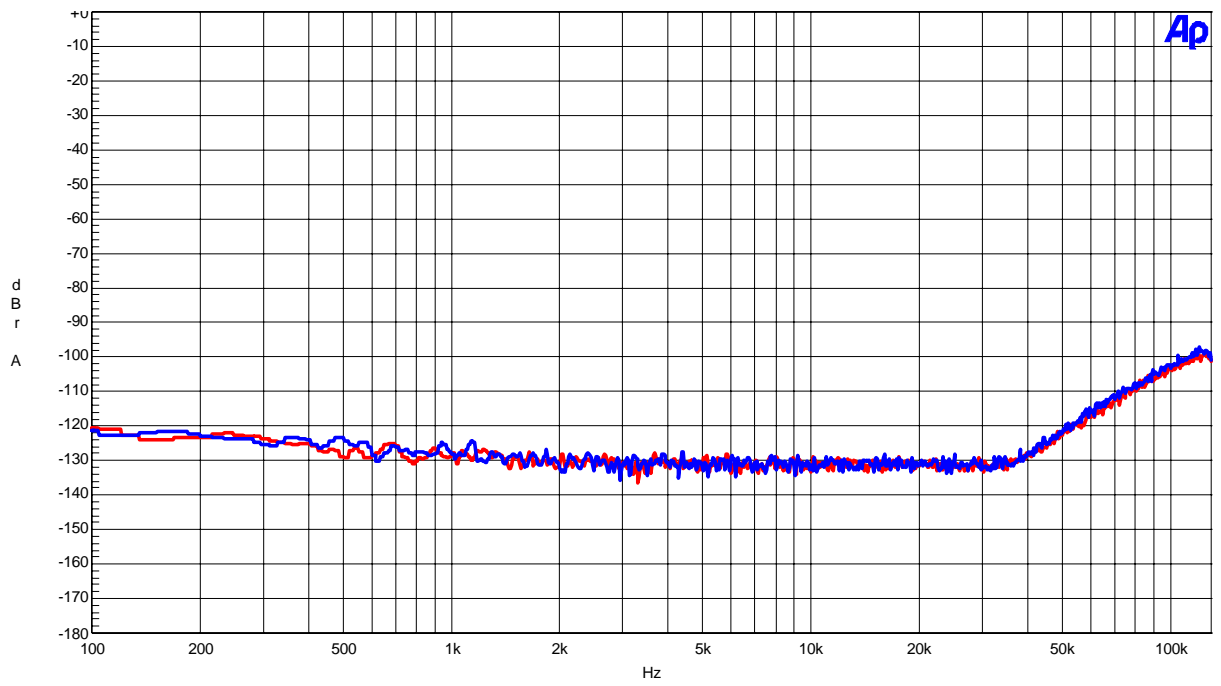

Figure 21. FFT (out-of-band noise)
- Figure 21. FFT (out-of-band noise)